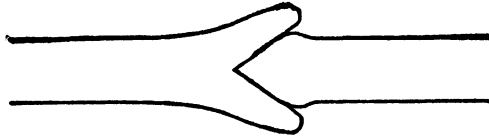

FIG. 42
14. If a split or cleft weld is to be made, heat and upset the stock as far as it will become red, during the process of welding and until each piece is about one and one-half times its original diameter. Clamp one piece of stock firmly in the vise and split the end for a distance equal to the original diameter of the stock. Spread the ends until they form a Y and draw the sides of the Y until they are blunt edged and form an oval shaped point. Make a blunt taper on the ends of the other piece, forming a 60 degree angle between the surfaces of the taper. Figs. 42 and 43.